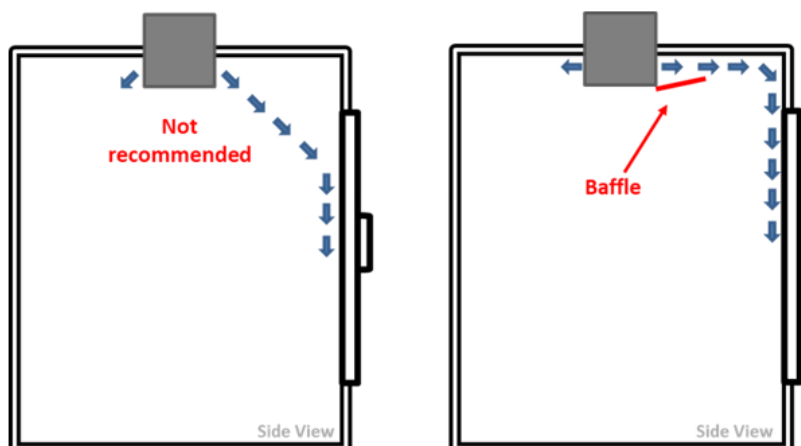

Figure 3 – Side Air Flow View - cold side – Baffle recommended for display doors
- If there are display doors, it is recommended air discharge blows above and not directly at doors. A baffle (not supplied) is recommended to direct air above door. See Figure 3.